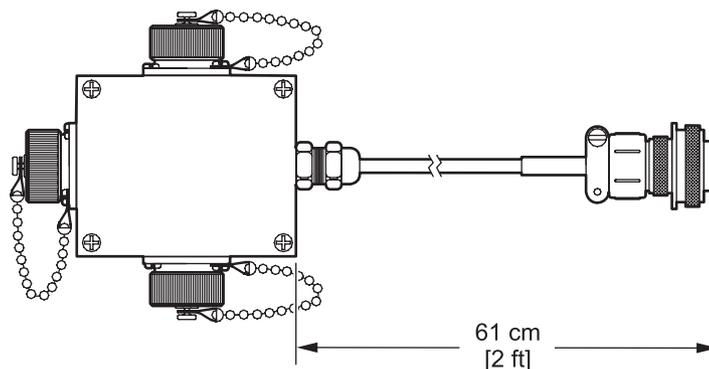

Figure 15 Splitter
- Optional splitter (Figure 15) to provide additional connections. Two or more splitters may be connected in series.